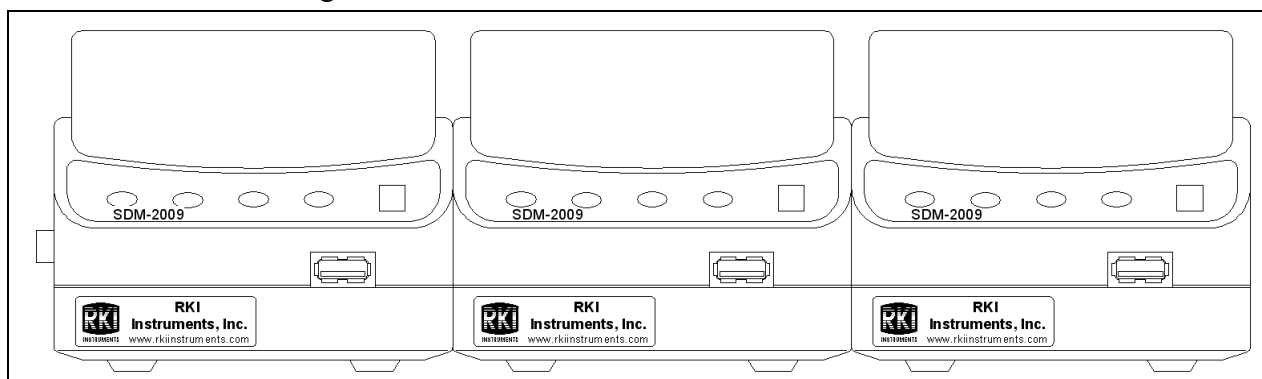

Figure 11: SDM-2009 Arrangement
2. If you have more than one SDM-2009, arrange them side by side as shown in Figure 11 below. Each docking station has three connection tabs on the left side near the bottom of the station and three connection recesses on the right side near the bottom of the station. The tabs from one docking station can be pushed into the recesses on another station to mechanically connect the docking stations.